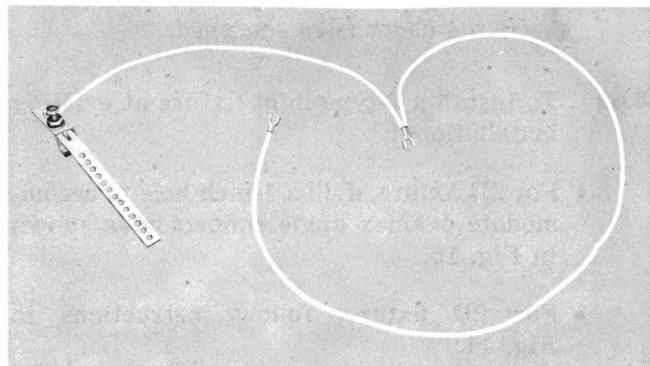

Fig. 12 – Grounding Wire Assembly
7.01 The P-12C414 grounding wire assembly, Fig. 12, is provided for attachment to KS-8164 ventilator or KS-14125 blower and coin collector.